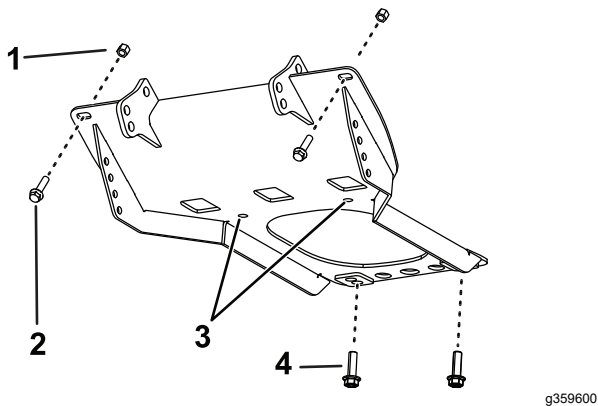

Figure 1
6. Using the plow skid plate as a guide, drill out the 2 holes in the vehicle bottom skid plate to 7/16-inch (Figure 1).